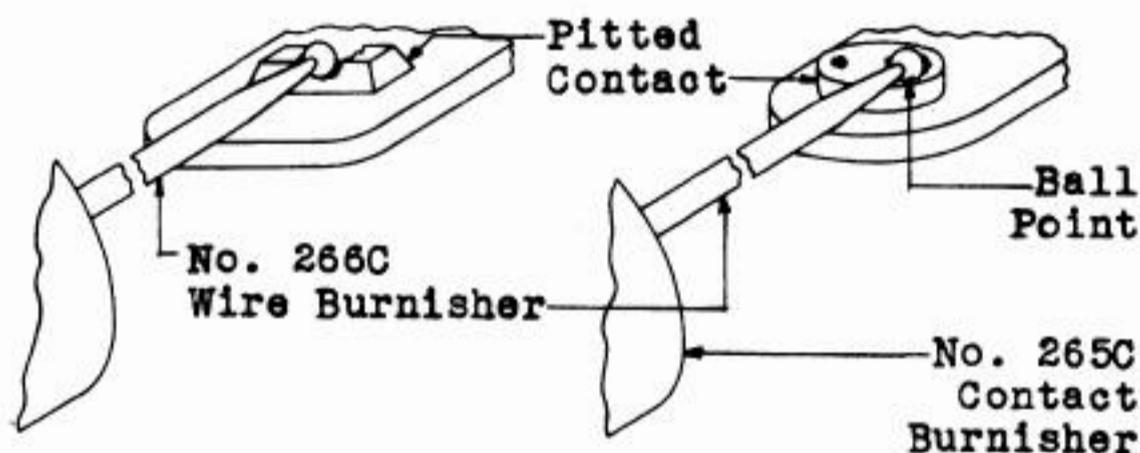

Fig. 21 - Method of Cleaning Pitted Contacts
5.14 Burnish the pit using the No. 266C wire burnisher provided with the No. 265C contact burnisher. To do this place the ball point of the burnisher in the pit as illustrated in Fig. 21. If the pit is small rotate the